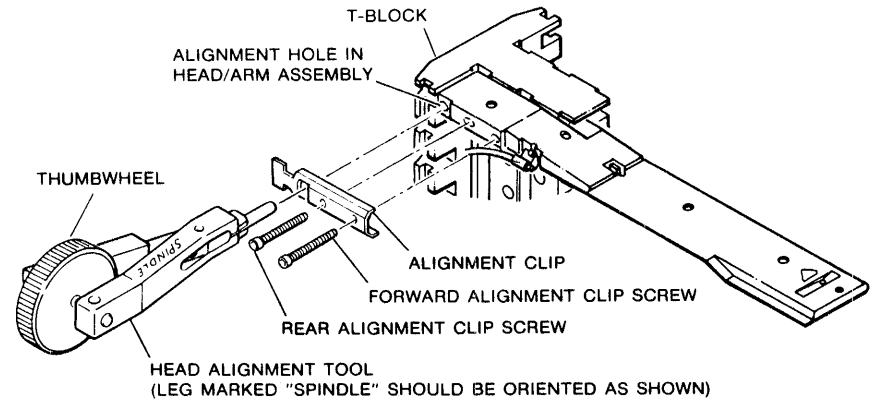
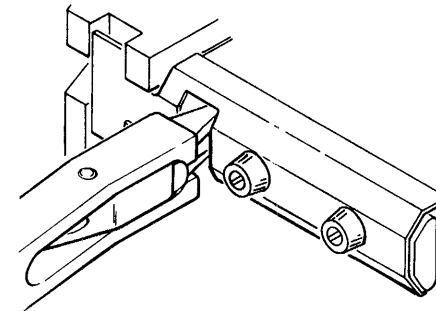

FIGURE 4-11. ORIENTATION OF ALIGNMENT TOOL TO HEAD
FIGURE 4-12. ALIGNMENT TOOL IN HEAD
5. Referring to Figure 4-11, loosen forward alignment clip screw and apply INITIAL torque using the Head Torque Tool. Then repeat for rear alignment clip screw.
6. Refer to Figure 4-11 to see the correct orientation of the word "SPINDLE" on the Head Alignment Tool relative to the head. Then insert the alignment tool such that the tapered pressure shoes on the tool (Figure 4-12) enter the square hole in the alignment clip, contacting the hole's vertical sides.